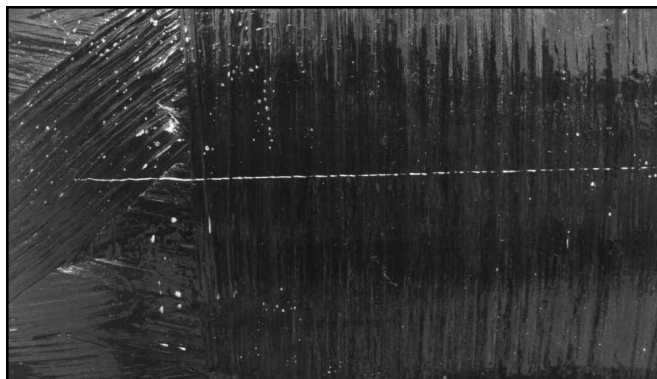

Figure 6-12 Level 1 Cut or Scratch Damage
The depth of the area determines the damage level assigned to the composite fibers in question. Accurate depth measurement of damage requires removing all loose fibers associated with the damage. Once the loose fibers are removed, the damage level can be determined per Figure 6-11. See Figure 6-12 for an example of inspecting damage depth.
- Level 1 - Minor damage that is considered inconsequential to the safe operation of the tank (see Figure 6-12).